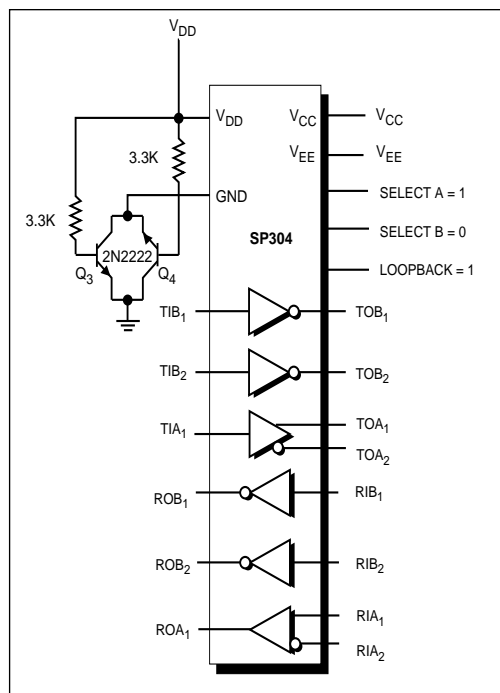

Figure 2. Typical Circuit
*Figure 2* shows a typical circuit for the **SP304**. In this case the **SP304** is shown configured for one (1) duplex RS-422 and two (2) duplex RS-232 communication paths.